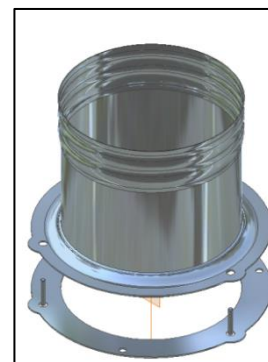

Figure 3-8: 6CON Liner Connector
The Astra 24 fireplace can be connected to a masonry chimney that complies with current national and municipal building codes. A 6 inch chimney liner that complies with ULC S635 M2000 (Canada) or UL 1777 (US) standards must be installed within the existing masonry chimney. Note that the 6CON connector (manufactured by SUPREME FIREPLACES INC.) must be installed to connect the prefabricated chimney to the liner (6CON sold separately). Refer to Figure 3-8.